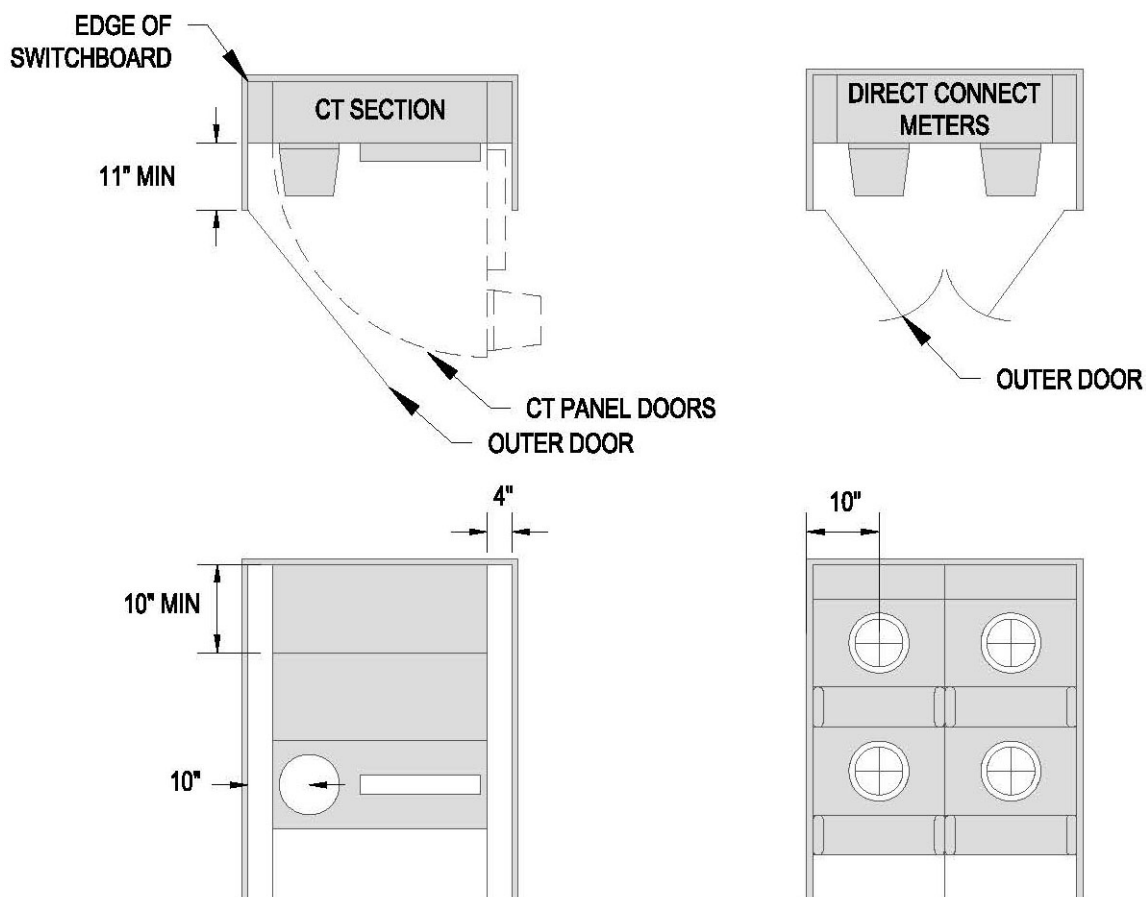

Figure 106. Outdoor Switchboard Metering (EUSERC 354) - (STD-D-6254)
- When installing outdoor switchboard metering, the customer must install a housekeeping pad with a 48" concrete extension, unless an existing concrete or asphalt surface exists in front of any cabinet that contains PGE equipment. Drainage must slope away from the cabinet (see Figure 106).
Table 36. Minimum Pull Section Dimensions (applies to Figure 106 only)